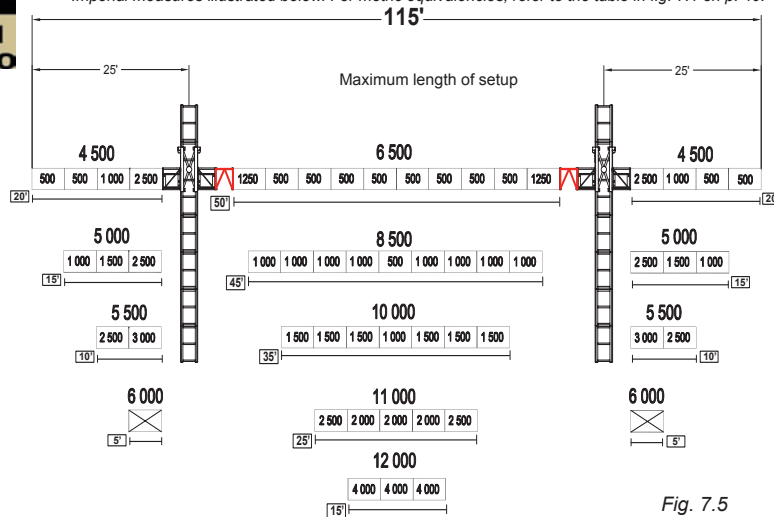

Fig. 7.5
**NOTE:** The configuration illustrated in fig. 7.5 (above) requires the use of two motorized units and two optional twin mast adapters (shown in red).